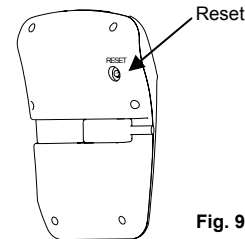

Fig. 9
- Push the thermostat reset button located on the back of the control panel. (Fig. 9) The unit will beep to indicate that it has re-set.